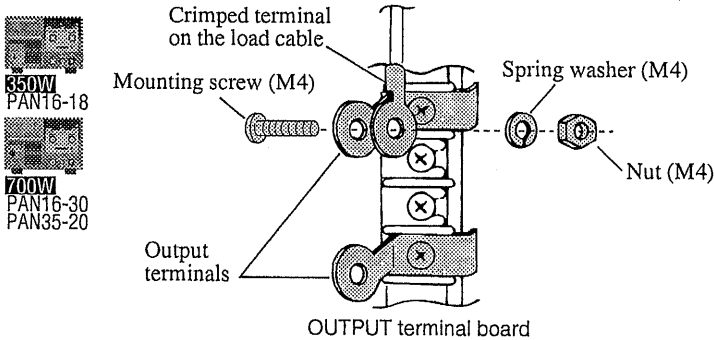

Fig. 2-7 Connection to the rear OUTPUT terminal board of the PAN16-18, PAN16-30, and PAN35-20
- For connecting a cable to the rear panel output terminals of the models shown on the left, see Fig. 2-7.
- Be sure to use M4 screws to fasten the crimped terminals of the load cable to the output terminals, and fasten them as shown in Fig. 2-7.